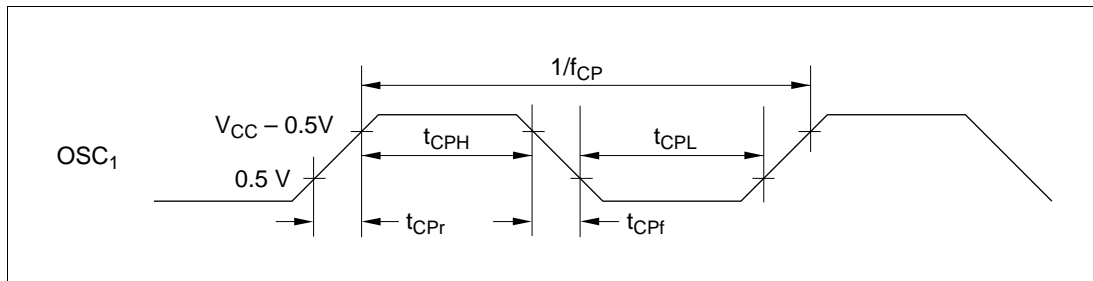

Figure 25-31 External Clock Timing (HD404369 Series)
3. See figure 25-31.
4. See figure 25-31.